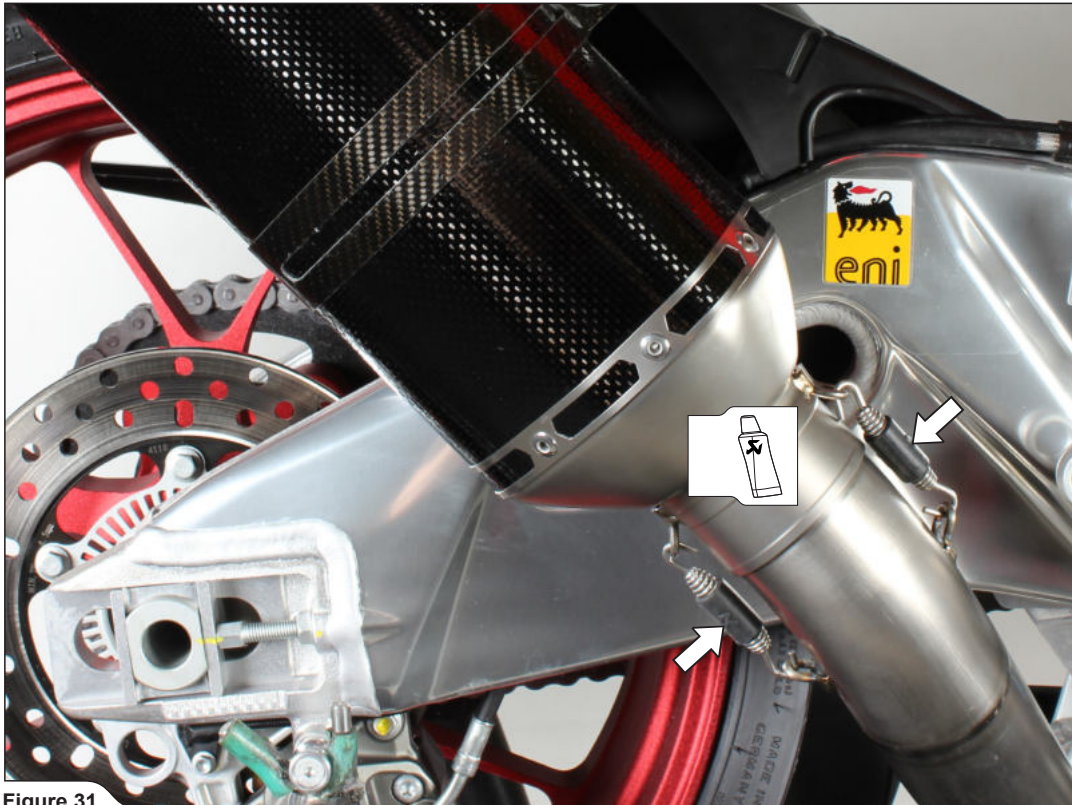

Figure 31
14. Position the muffler correctly, slide it onto the outlet of the link pipe and attach the springs (Figure 31).